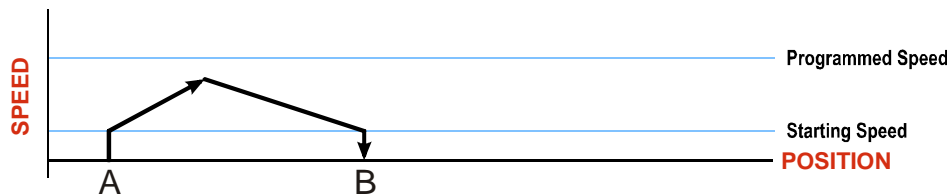

Figure R2.5 A Triangular Profile
Figure R2.5 below shows a Triangular Profile. A Triangular Profile occurs when the number of steps needed to accelerate to the *Programmed Speed* and decelerate from the *Programmed Speed* are greater than the total number of steps in the move. In this case, the profile will accelerate as far as it can before it has to decelerate to reach the *Starting Speed* at the *Target Position (B)*. The *Programmed Speed* is never reached.